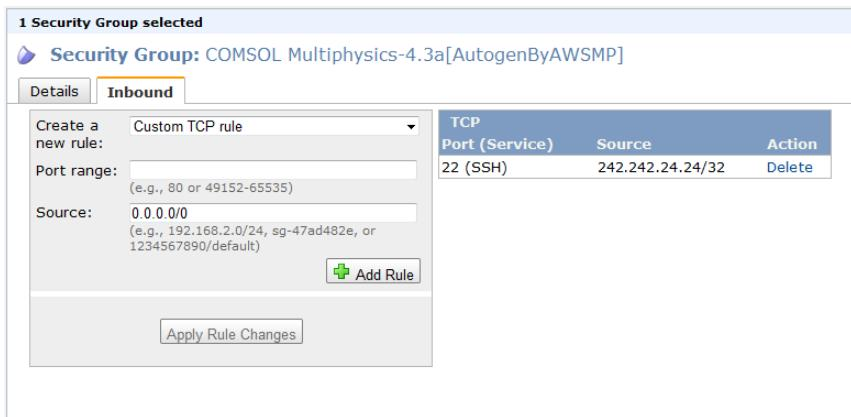

Figure 21-3: Security group after successfully restricting the IP address to 242.242.24.24.
- For added security, the firewall in the cloud should be configured to only allow traffic to and from your on-site public ip address. You will do this yourself while setting up the could service, see Figure 21-3.